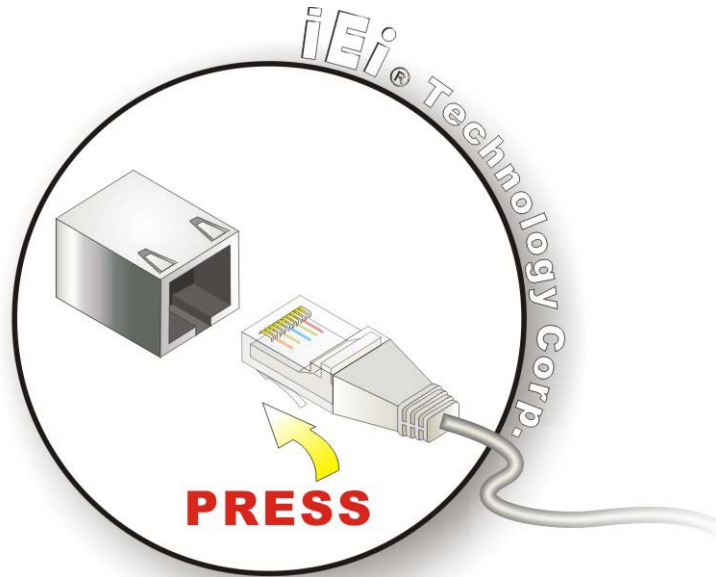

Figure 4-17: LAN Connection
Step 11: Align the connector. Align the RJ-45 connector on the LAN cable with the RJ-45 connector on the AFL2-W07A-N26. See **Figure 4-17**.